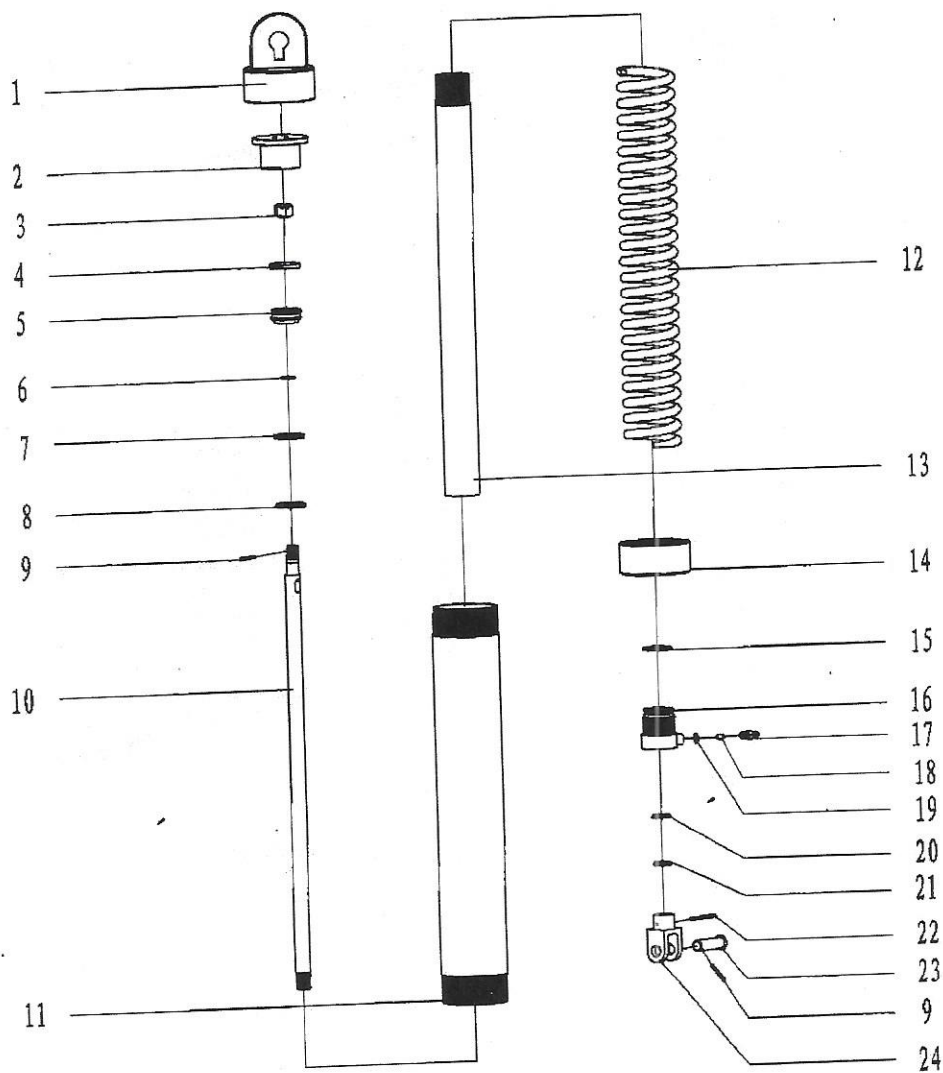

Fig. 27
24. Hydraulic spring tube assembly (Fig 27, Table 24)